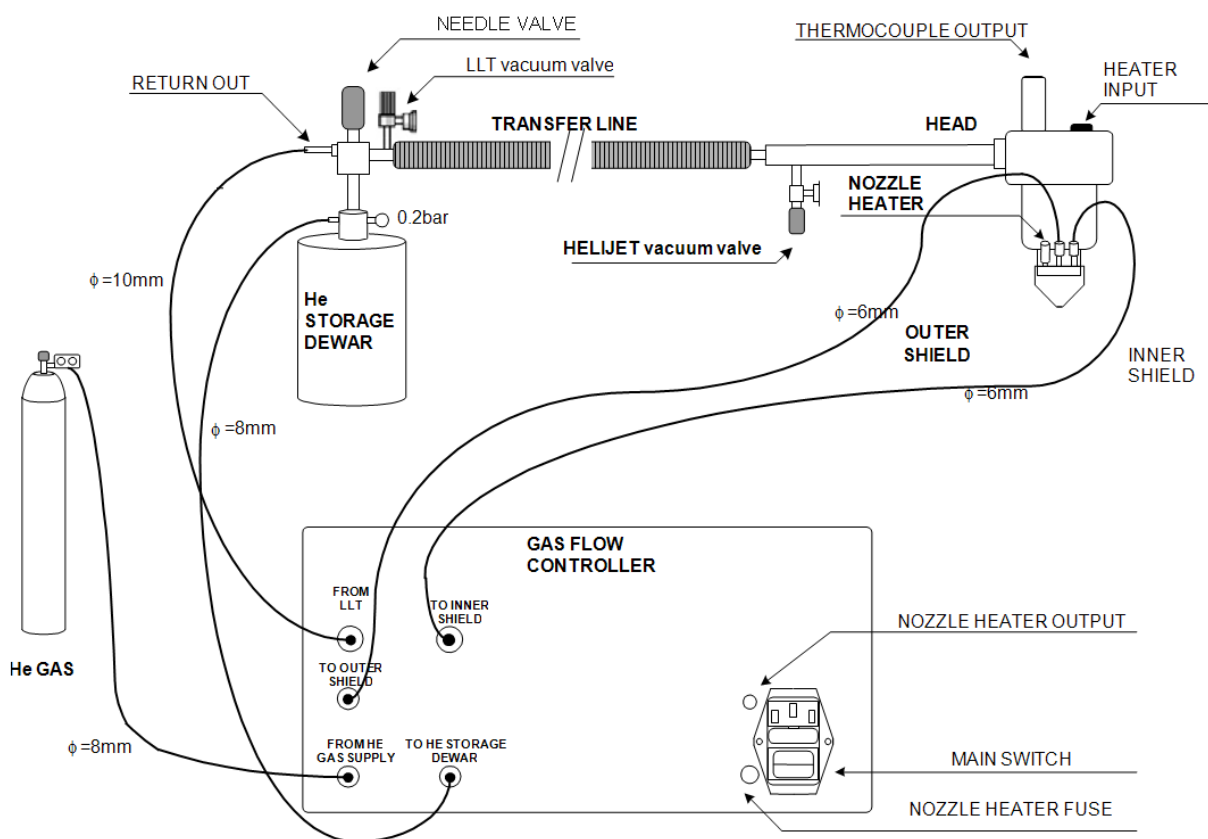

Figure 26 Assembly of Complete System
2. Ensure that all tubes are connected to the correct ports as described in Figure 26 except for the 10mm tube, this should be connected after the transfer tube has been inserted into the storage dewar.